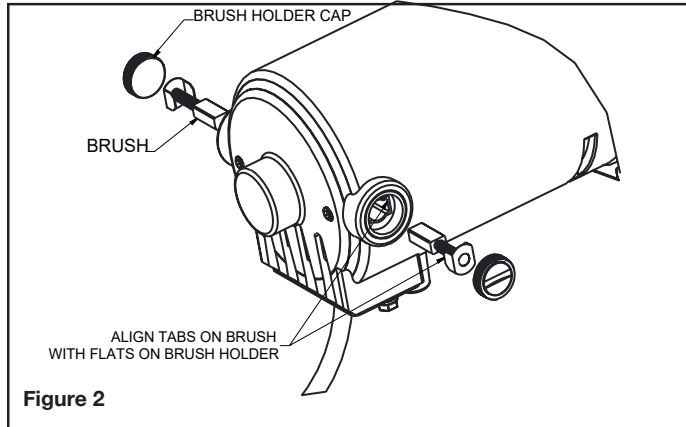

Figure 2
- Replace brushes, make sure springs do not pinch during assembly. Align/center tabs on the back of the brush spring with the flats on the brush holder. Ref. fig 2.
14. Replace the brushes and caps, make sure to put them back in the same way they came out. Make sure the springs do not pinch during assembly and align/center the tabs on the back of the brush spring with the flats on the brush holder. Ref. fig. 2